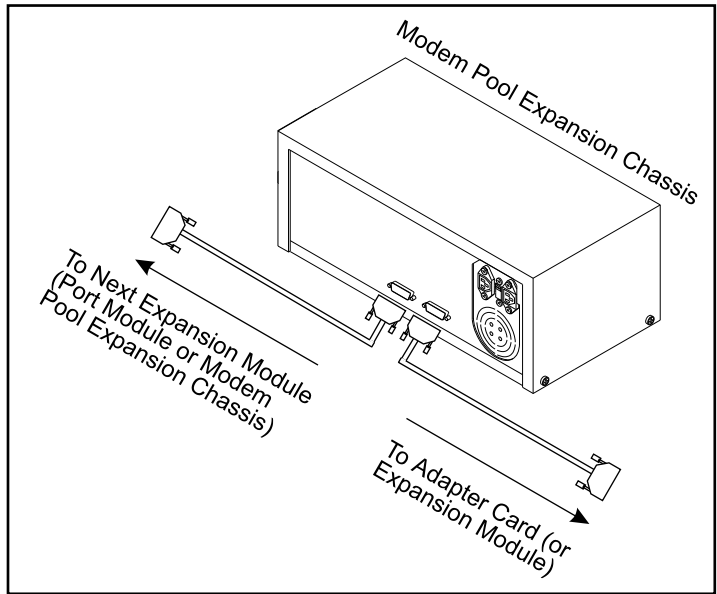

Figure 6-2. Equinox Modem Pool Expansion Chassis Cable connections
- When facing the rear of the *SST Modem Pool Expansion Chassis*, connect the other end of the *Expansion Bus Cable* to the right side connector, as shown in Figure 6-2.